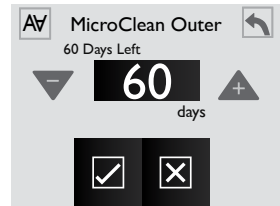

Figure 12.6e
1. From the “Water Care” Menu you can to set the MicroClean Outer timer, Figure 12.6e.